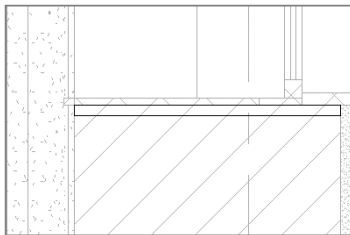

FIGURE 11.10 Adding a masking region
10. With Line Style set to Thin Lines, create a box 1" (25 mm) deep under the window sill, creating a blank space where you will later add some other 2D components, such as blocking. (Figure 11.10).